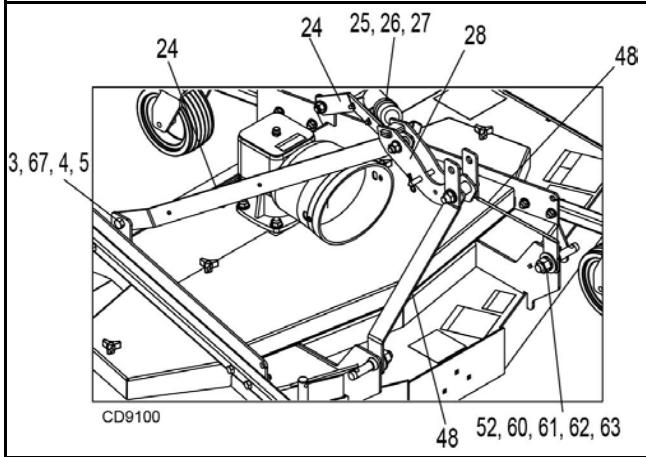

Figure 4. Hitch Assembly
6. Remove the bent pin (item 32) and cotter from the break link (item 28). Swing driveline holder up into storage position. Install bent pin through holder and break link. Retain with hairpin cotter. See Figure 4.
### **Category 1 Quick Hitch (Figure 4 & 5)**